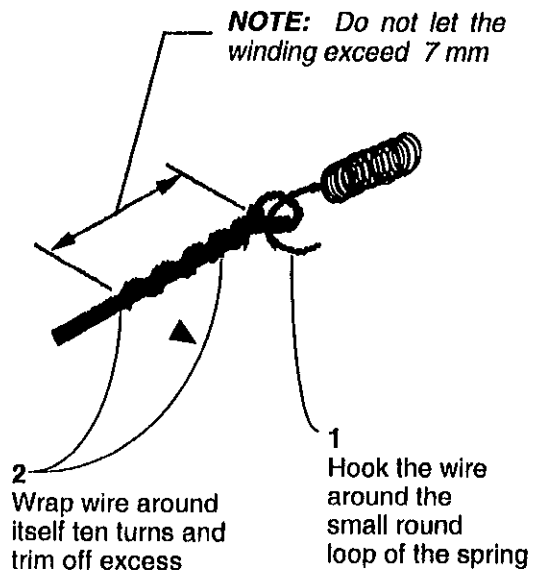

Figure 2. Installing the Transfer Corotron Wire onto the Spring
- 1 (Figure 2) Using a minimum of 16 to 18 inches of corotron wire or a spool of wire, attach the wire to the spring